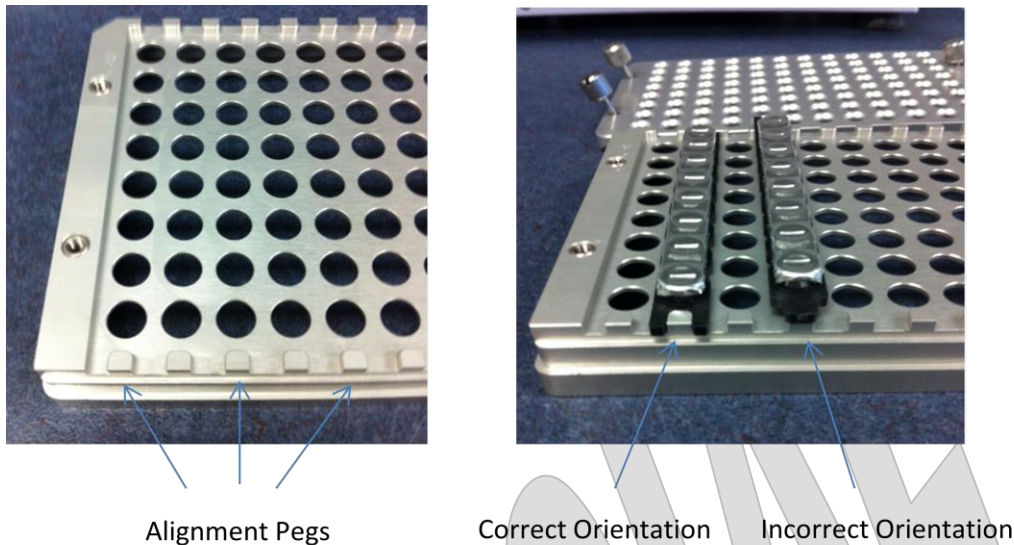

Figure 3: loading samples into the re-usable MicroTube 8-Strip rack
- 4.1. The 8-tube strips fit into the microTube 8-strip rack in one orientation only, with the tabs at one end spanning an alignment peg (see Figure 3.) If the strip is in the wrong orientation the lid will not fit onto the rack evenly and securely. When all strips are correctly positioned, screw down the rack cover to barely finger tight.